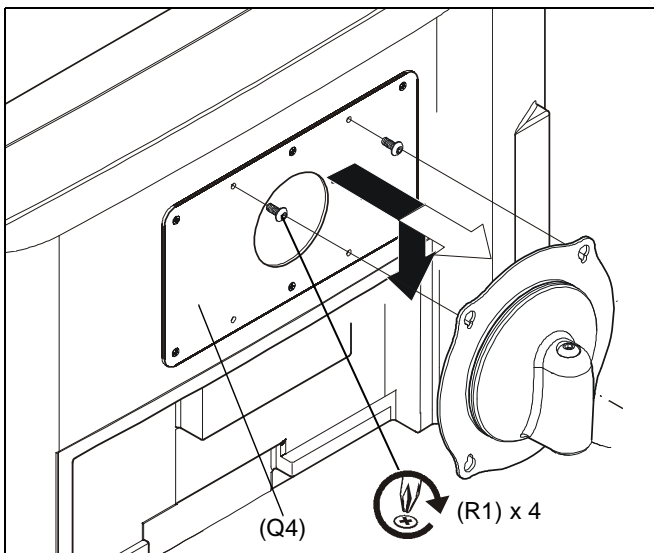

Figure 8
1. Start two M4 x 12mm Phillips pan head screws (R1) into top mounting holes on interface bracket (Q4). (See Figure 8)
2. Align two screws in interface bracket (Q4) with upper mounting holes in Centris cup and lower display until screws are seated in lower area of teardrop mounting holes. (See Figure 8)